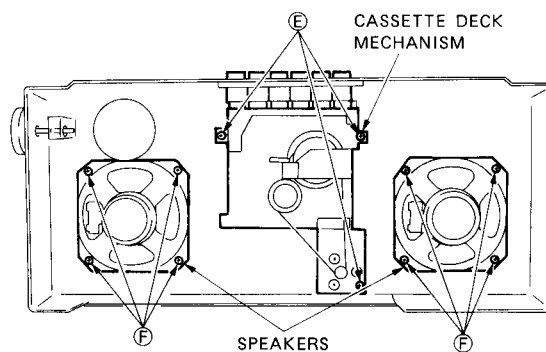

Fig. 6
6. Removing Cassette deck mechanism (Fig. 6)
7. Removing speakers (Fig. 6)